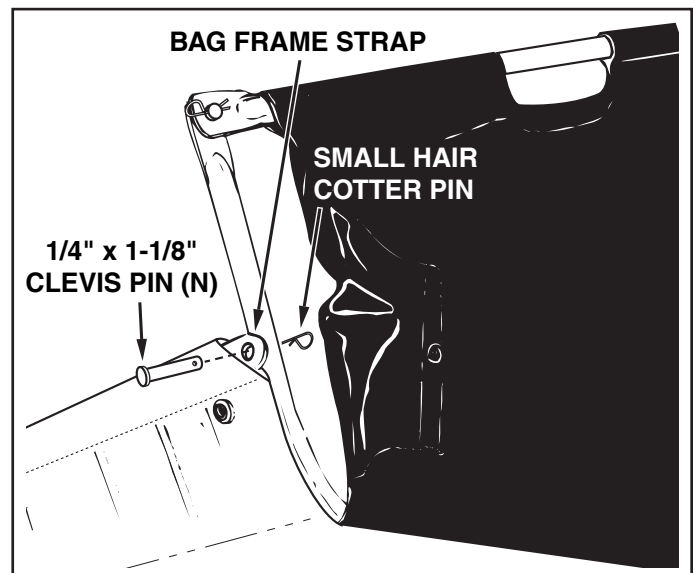

FIGURE 14
- Assemble the bag frame strap to the holes in the lower hopper tubes using two 1/4" x 1-1/8" clevis pins and small hair cotter pins. See figure 14.